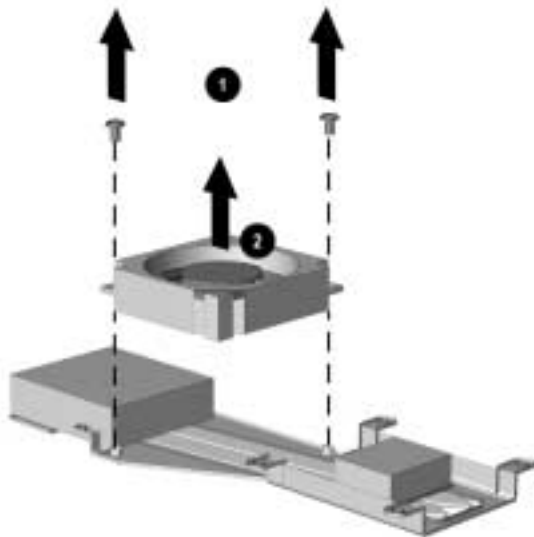

Figure 5-28. *Removing the Fan*
6. Remove the two screws that secure the fan to the heat sink ❶ (Figure 5-28).
7. Remove the fan from the heat sink ❷.